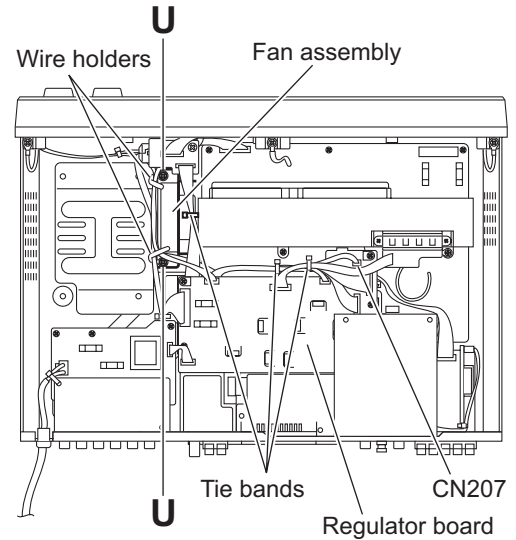

Fig.18
3.1.18 Removing the fan motor (See Figs. 18 and 19)
- (2) Disconnect the wire from the connector CN207 on the regulator board. (See Fig.18)
- (3) Remove the two screw **U** attaching the fan assembly and take out the fan assembly. (See Fig.18)